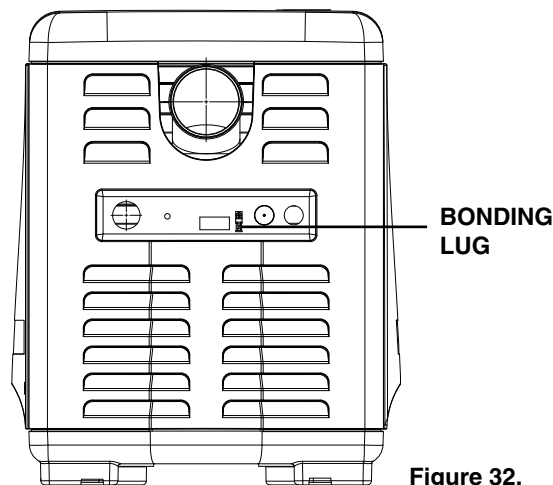

Figure 32.
**A bonding lug is provided on the heater located on the upper side of the base by the plumbing side (see Figure 32). The heater along with the pool system equipment must be bonded together. Using solid copper conductor not smaller than 8 AWG to reduce voltage gradients in the pool area.**